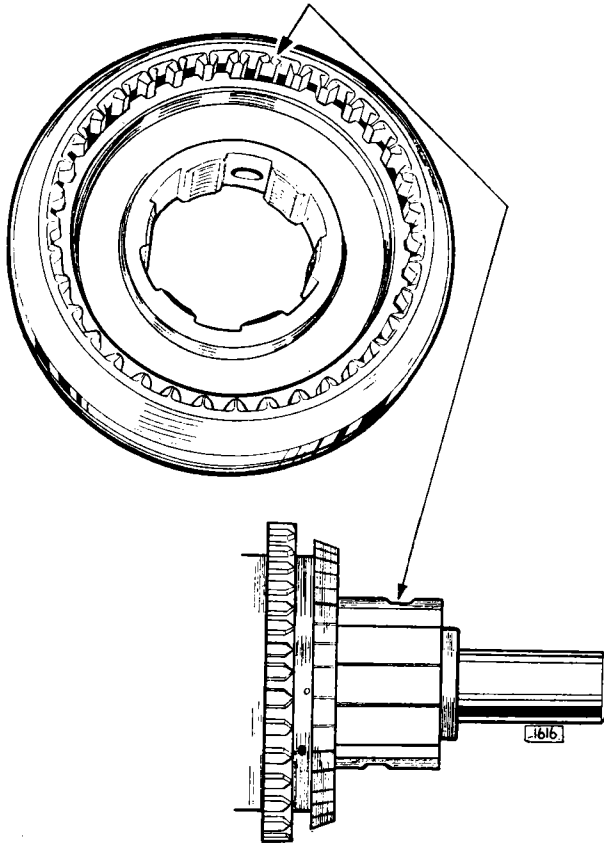

Fig. 17. The relieved tooth at the wide chamfer end of the outer operating sleeve must be in line with the foremost groove in the mainshaft.
- There are two transverse grooves on the mainshaft splines which take the 3rd/top synchro assembly and the relieved tooth at the wide chamfer end of the outer operating sleeve must be in line with the foremost groove in the mainshaft (Fig. 17). Failure to observe this procedure will result in the locking plungers engaging the wrong grooves thereby preventing full engagement of top and third gears.